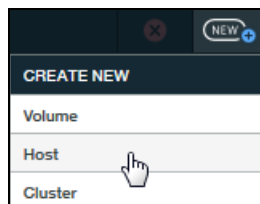

Figure 2-43 The Create New (hosts and clusters) menu
1. From the main GUI Dashboard, click **New**, and select **Host** from the menu (see Figure 2-43).